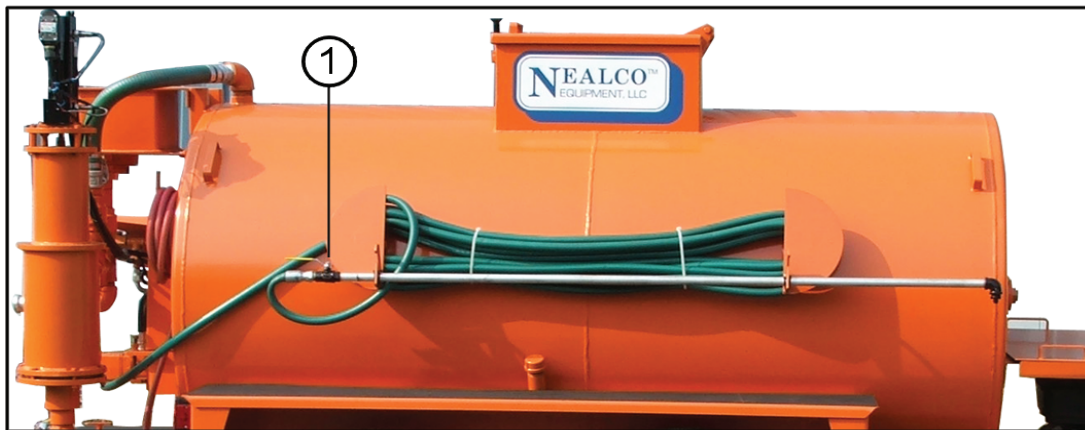
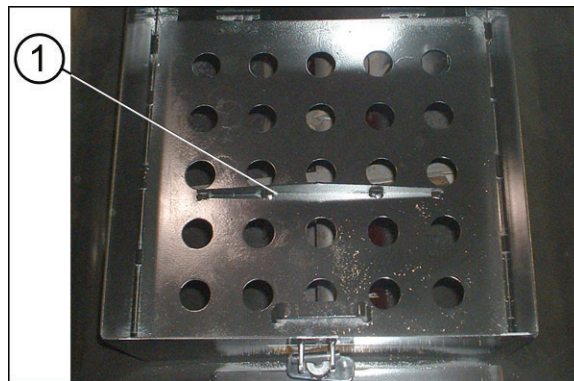

Figure 2-6
Figure 2-9
4. Open the ball valve on the hand wand (1, Figure 2-6) and start spraying with the sealing material. If two hand wands are used, they may be turned on and off independently of each other.
5. Add the desired quantity of sand slowly to allow for thorough mixing. Allow up to 1 minute for the sand to flow in through the grate. The grate has a sand bag splitter (1, Figure 2-9) incorporated into its design for ease of adding sand to the mix. Drop the bag on the splitter, then pick up the bag at both ends to allow the sand to slowly sift through the holes into the tank.
6. Remove the spray nozzle from the tip of the hand wand. Introduce the fresh mix through the hose and wand by opening the hatch (see Figure 2-9) at the top of the machine, placing the wand into the hatch opening letting it catch in one of the holes in the inner hatch cover, opening the hand wand ball valve (1, Figure 2-6) and turning the material pump back ON.